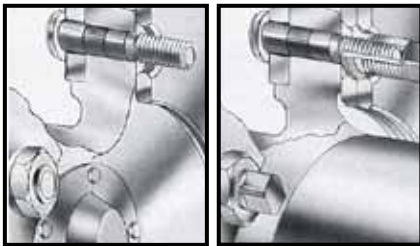

Figure 4 - Single wheel installation **Figure 5** - Dual wheel installation
2. Mount the single or inner dual wheel over the stud, being careful not to damage any of the threads on the studs. Figure 4 illustrates how a single wheel should look when mounted. Figure 5 shows the proper mounting configuration for a dual wheel.